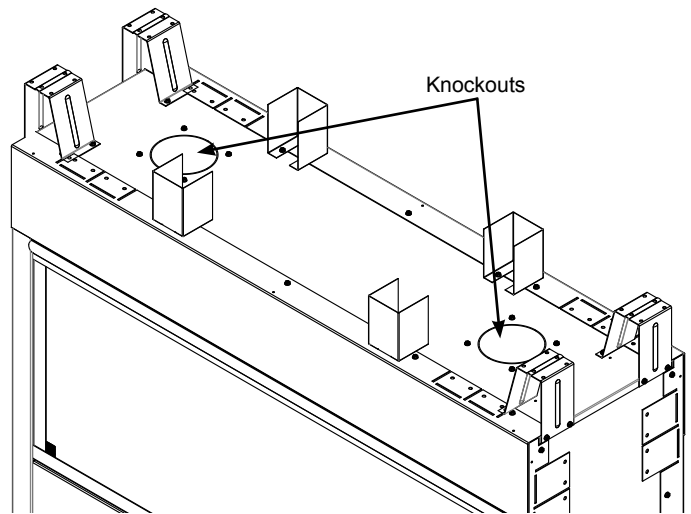

Figure 1. Remove knockouts
1. Locate the two knockouts on the top of the unit, (Figure 1), and remove.